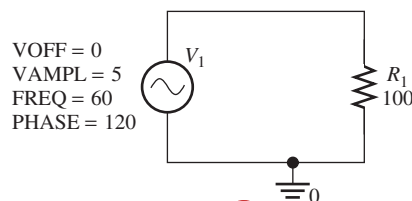

FIGURE 6.60 PSpice schematic diagram for Example 6.27
6. The PSpice schematic is shown in Figure 6.60.